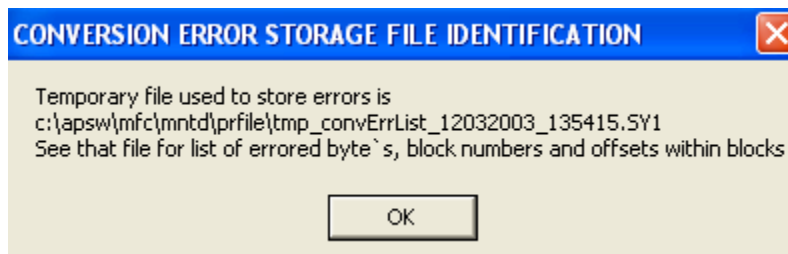

Figure 30: Conversion Error File Location and Use
2. if the user clicks the “View Errors” button, a message displays informing the user about the location and use of the error file, click the Ok button on the message box to return to the Conversion Error dialog box. This message is shown in Figure 30: Conversion Error File Location and Use.